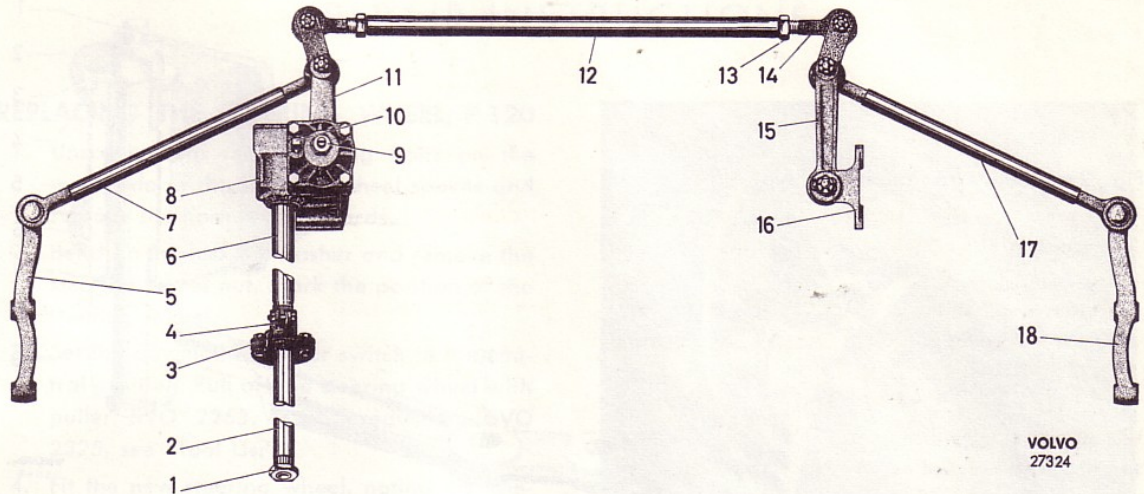

Fig. 22. Steering gear (late production) P 120.
The movement of the steering wheel is transmitted to the road wheels via the steering column (2, Fig. 22), steering box (8), pitman arm (11), tie rod (12), relay arm (15), steering rods (7 and 17) and steering arms (5 and 18).
production (Fig. 26) in bushes. The steering column is divided into two parts (2 and 6, Fig. 22) which are jointed with a coupling (3). The upper section of the steering column is carried in bearings in the jacket tube. The steering rod ball joints are plastic-lined which means that they do not require lubricating.